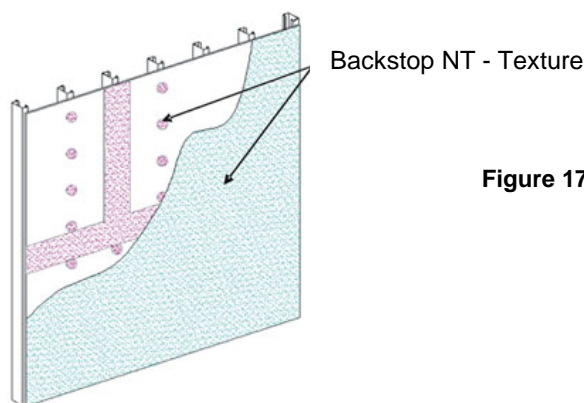

Figure 17
- 3) Use a coarse, open-cell foam roller cover with a 3/8 in (9.5 mm) foam nap (FoamPRO #58 roller). Apply a uniform, continuous film of Backstop NT – Texture over the entire surface of the sheathing, concrete or masonry, including the previously treated areas – Figure 17. **NOTE: If the roller pulls material back out of the sheathing joints, it indicates that the joint material is not sufficiently dry.**